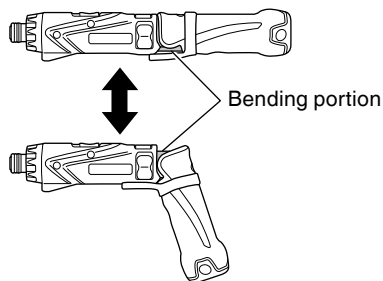

Fig. 14
- If the rubber cover becomes loose, damaged or lost, contact your metabo HPT AUTHORIZED SERVICE CENTER. (Fig. 14)